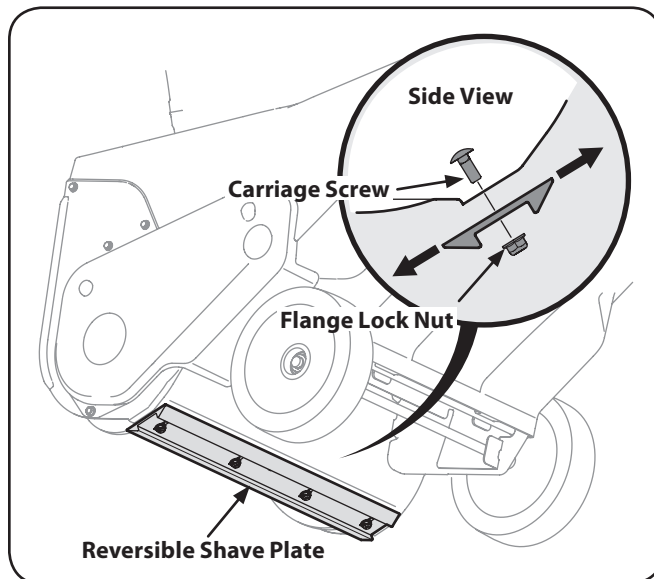

Figure 6-1
3. Loosen the four flange lock nuts and carriage bolts which secure the shave plate to the housing. See Fig. 6-1. Move the shave plate to the desired position and retighten the nuts and bolts securely.